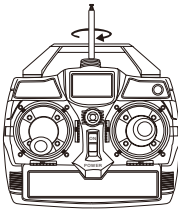

Fig.1
1. Install antenna: screw antenna into the adapter (Fig. 1)